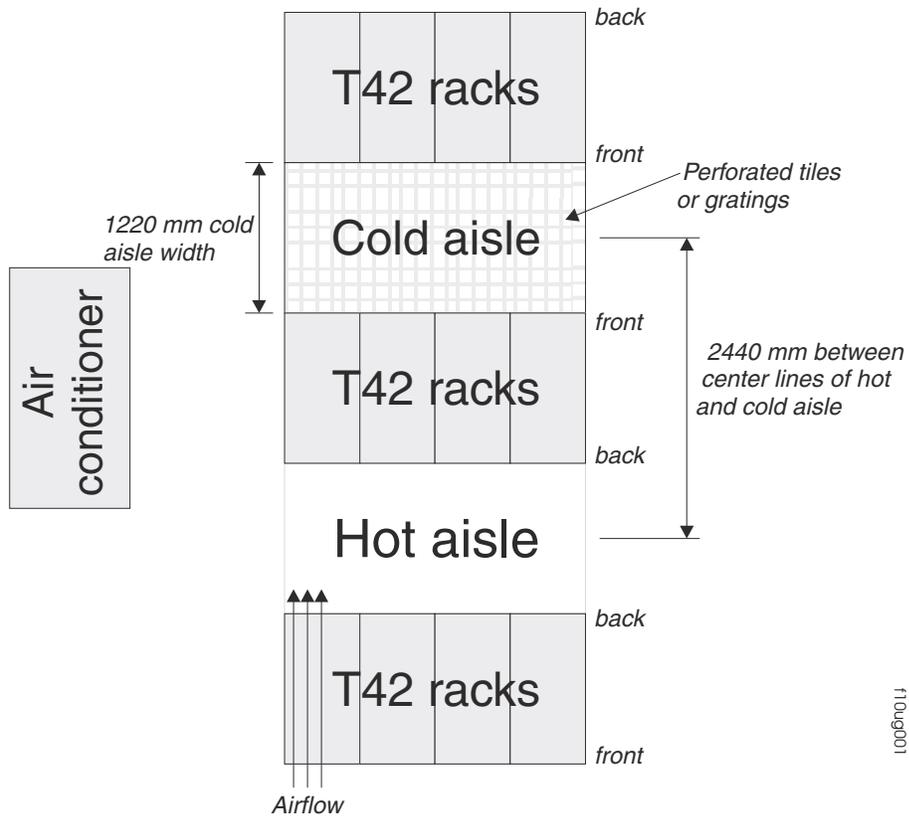

Figure 11. Example of cold aisle/hot aisle rack cabinet configuration
- Air enters at the front of the rack cabinet and leaves at the back. To prevent the air that is leaving the rack cabinet from entering the intake of another piece of equipment, you must position the rack cabinets in alternate rows, back-to-back and front-to-front. This arrangement is known as “cold aisle/hot aisle” and is shown in Figure 11 on page 24.